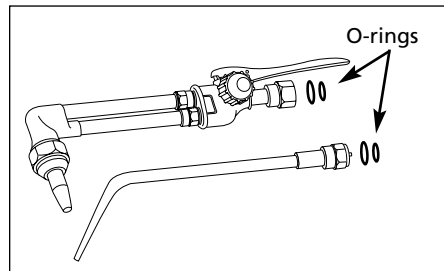

Figure 7 - Checking O-Rings
3. Select the proper size and type of welding tip (See Table 1). Inspect the welding tip or cutting attachment for missing O-rings. Connect welding tip or cutting attachment to torch handle by hand-tightening the O-ring connection (see Figure 7).